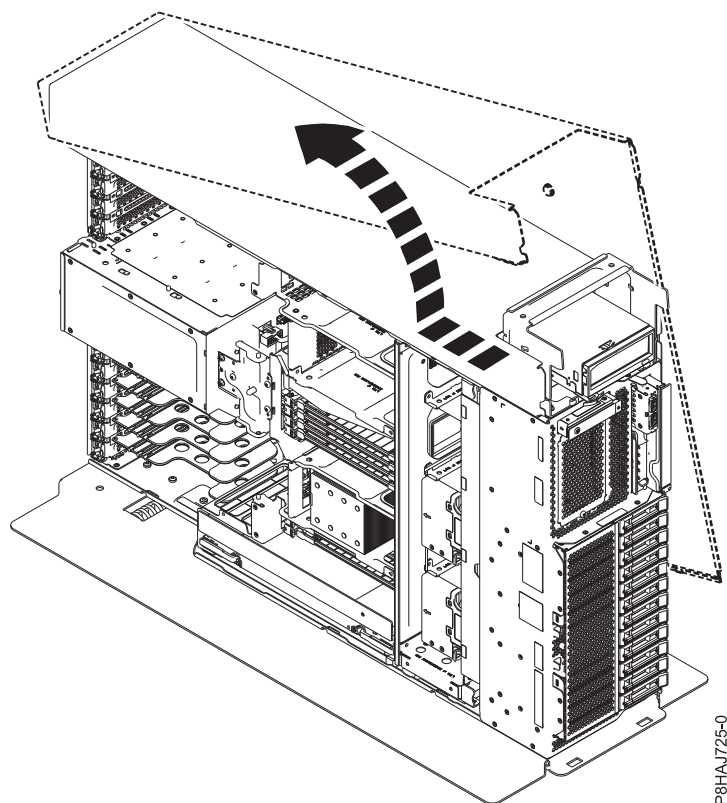

Figure 13. Removing the 8286-41A side cover
5. Slide the side cover off of the system in the direction that is shown in Figure 13 on page 32.